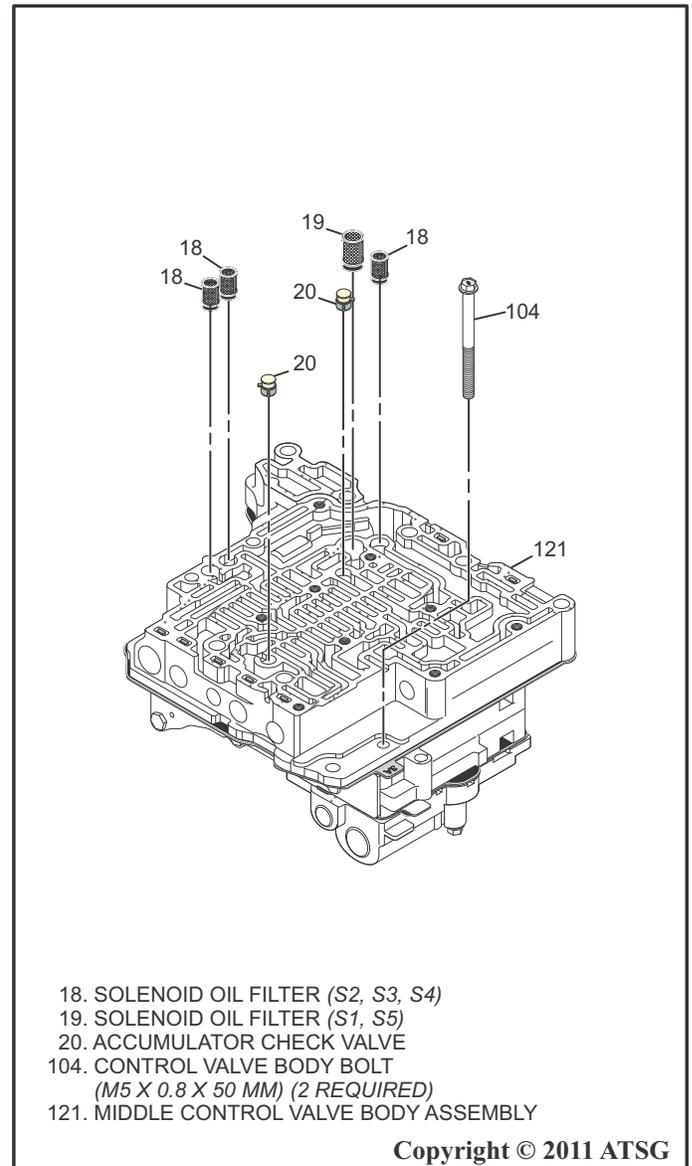

Figure 158
9. Remove the shift solenoid filters and the accumulator check valves from the middle control valve body as shown in Figure 158.
10. Remove the control valve body bolt from the middle control valve body using an 8 mm socket as shown in Figure 158.